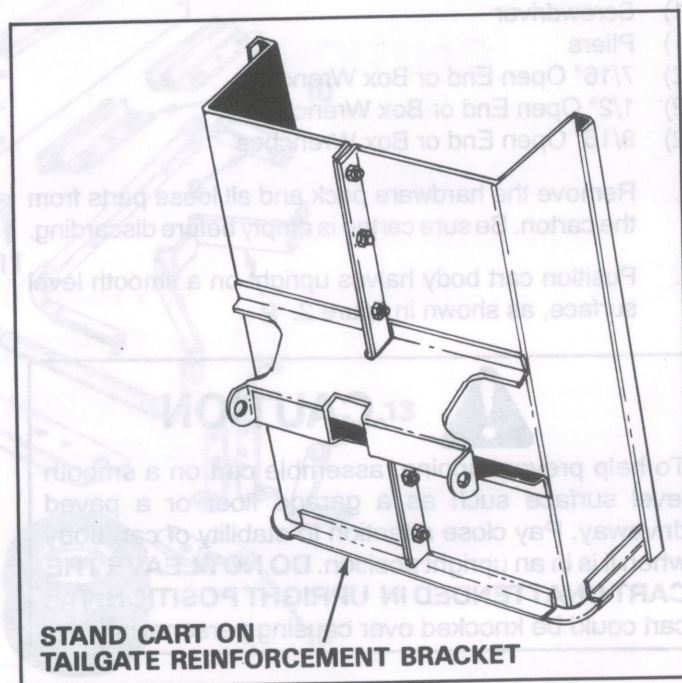

FIGURE 5
10. Reverse the cart position and stand up on tailgate reinforcement bracket and proceed with assembly steps 11 through 18. See figure 5.